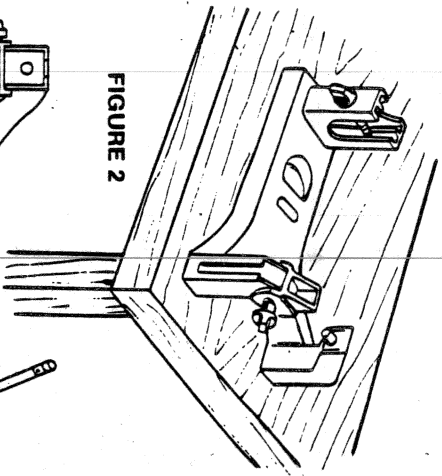

FIGURE 2
### A. Securing the Planer Stand directly to the work surface (Figure 2).
1. For operating convenience, locate the stand at the front, right corner of the work surface. (Orientation of stand shown in figure 2)